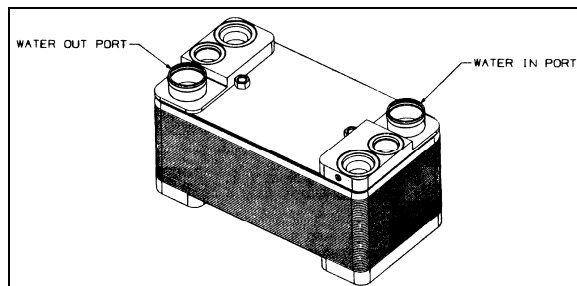

FIGURE 13: ALLISON OIL COOLER
2. Disconnect the two transmission hoses from oil cooler. Cover hose ends and fittings to prevent fluid contamination (Refer to fig.13).